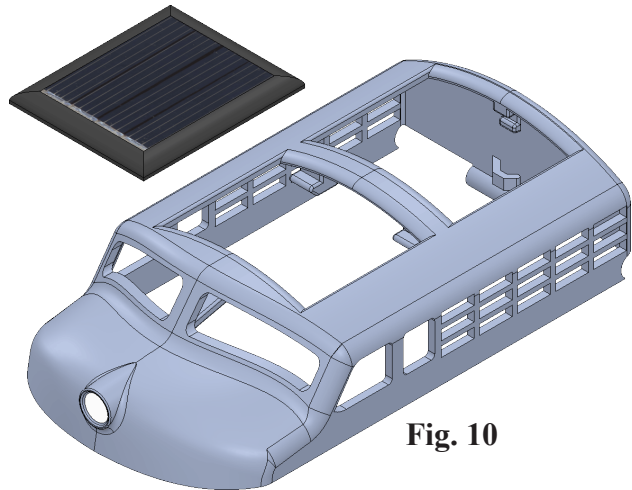

Fig. 10
Step 4. Place as positioned in **Fig. 10**.